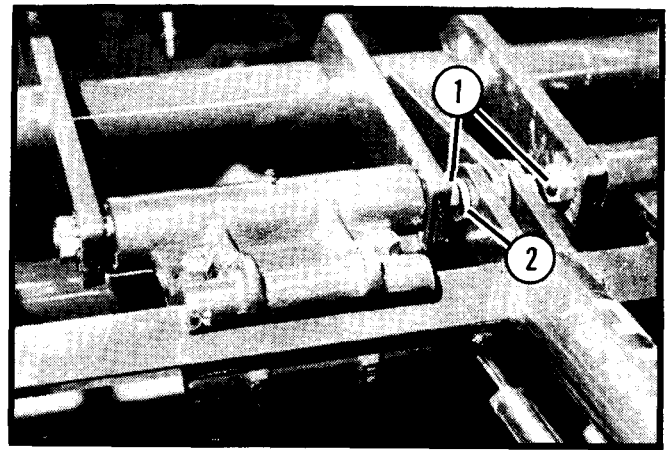

Figure 3
7. Mount the aerating wheel assemblies to the tool bar. (The aerating wheels Part No. 546048 are mounted to the side rails Part No. 515204 and to the clamps Part No. 515109). Beginning in the middle of the frame, clamp a wheel assembly onto the tool bar. Keep a minimum gap of 1/8" (3 mm) between, the pivot shaft on the clamp and the clevis pin securing the cradle onto the frame (See Figure 3). With wheel assembly in position, alternate tightening the two 1/2-13 x 2 1/4" screws and nuts clamping the wheel assembly onto the tool bar. Torque each screw to 75 ft-lbs (102 N·m).